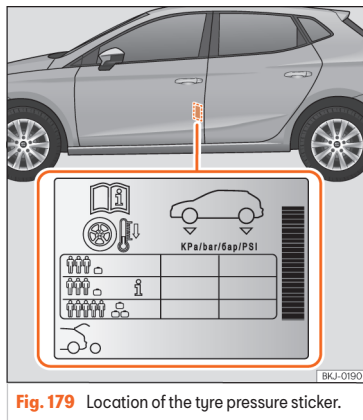

Fig. 179 Location of the tyre pressure sticker.
- Adjust tyre pressure to the load being carried by the vehicle »»» **Fig. 179**.
The values of the tyre pressure are shown on the sticker label located on the read frame of the front left door >>> **Fig. 179**.
The tyre pressure must be adjusted according to the load the vehicle is carrying. If the vehicle is going to be fully loaded, increase the tyre pressure to the maximum load value shown on the sticker label >>> **Fig. 179**.
In the case of a minimised temporary spare wheel (125/70 R16 or 125/70 R18) inflate to a pressure of 4,2 bar as indicated on the tyre pressure label >>> **Fig. 179**.
Depending on the vehicle, tyre pressure can be adjusted to medium load to improve driving comfort [tyre pressure **i** >>> **Fig. 179**]. When driving with comfort tyre pressure fuel consumption may increase slightly.
- **The driver is responsible for ensuring that all of the vehicle tyres are correctly inflated to the right pressure. The recommended tyre pressure is indicated on the label >>> Fig. 179.**
- **Tyre pressure should be that indicated on the label when the tyres are cold at all times >>> Fig. 179.**